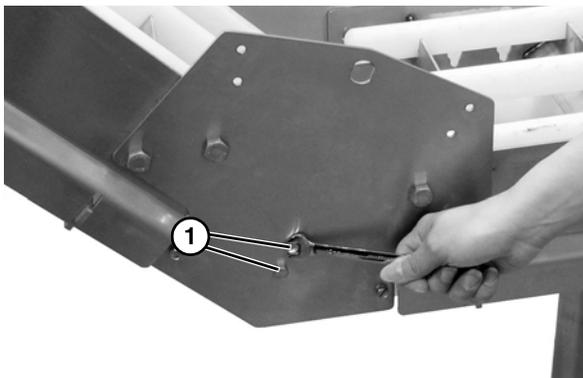
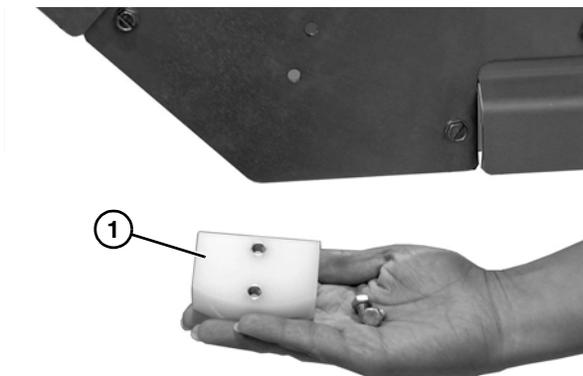

Figure 58
Figure 59
4. Remove two cap screws (**Figure 58, item 1**) and the inner belt return guide (**Figure 59, item 1**). Repeat on opposite side of the conveyor.